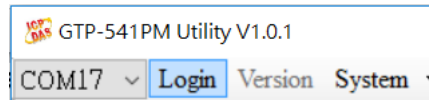
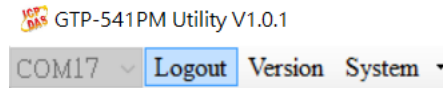

Figure 5.10.18
Figure 5.10.19
B. Click “Login” on the Utility screen. As shown in Figure 5.10.18, if the connection is successful, the “Login” button will change to “Logout”, as shown in Figure 5.10.19